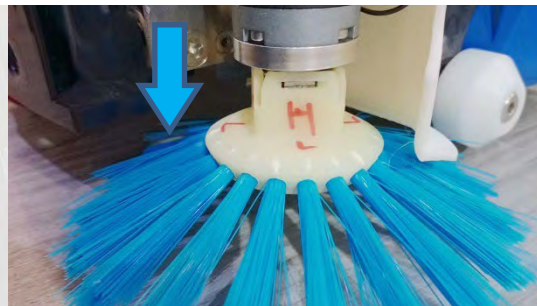

*Fig. 1*
1. Remove the bumper on the robot (Fig. 1).